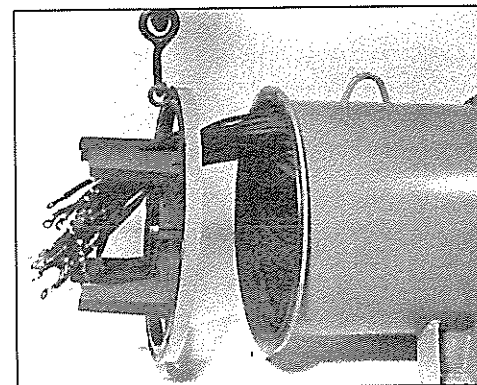

Figure 6-31
2. Remove the front end bracket from the main stator assembly (figure 6-31).